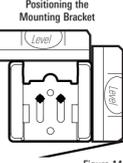

Figure 14
2. Hold the mounting bracket against the transom of the boat in the location you have selected (Figure 14). Align the bracket horizontally, using the level; make sure that the lower corner of the bracket does not protrude past the bottom of the hull, and there is at least 1/4" clearance between the bottom of the bracket and the bottom of the transom for fiberglass boats, and 1/8" clearance for aluminum boats (Figure 15).